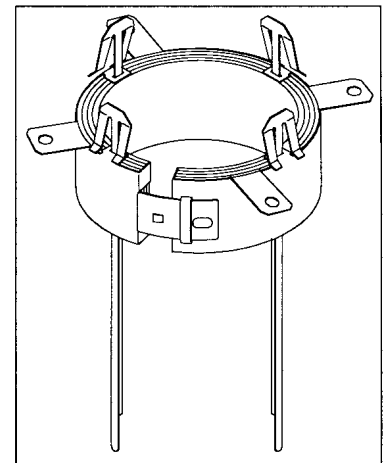

Figure 1: Assemble PPD & Ultra Fast Anchor
- A. Assemble PPD and Ultra Fast Anchor Strap. (Figure 1)